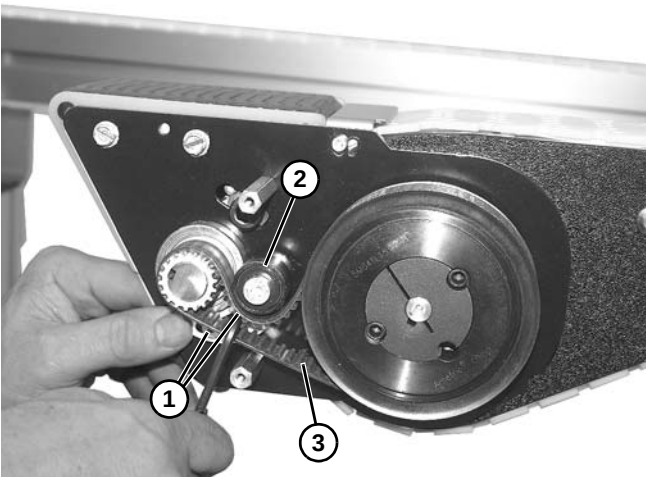

Figure 103
2. Loosen two socket head screws (**Figure 103, item 1**) holding tensioning pulley (**Figure 103, item 2**) onto timing belt (**Figure 103, item 3**).
3. Remove timing belt (**Figure 103, item 3**) from assembly.